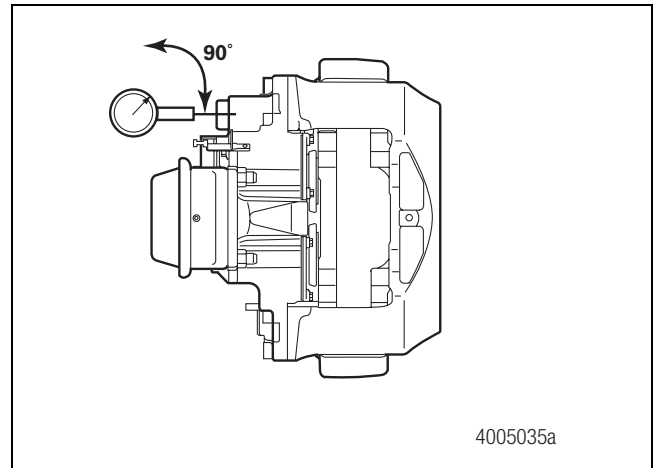

Figure 3.1
1. Attach a dial indicator to the torque plate or axle frame. The dial indicator reading should be taken from the most central part on the brake. Figure 3.1.